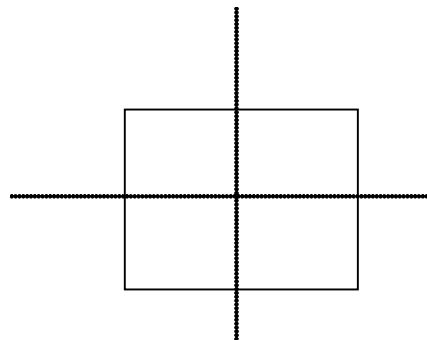

Figure 1.7: A square lattice
- (b) When a square lattice shown in Fig. 1.7 is rotated about an axis through its centre, it will appear exactly the same four times after being rotated through 360° . Thus, a square lattice has a four-fold rotational symmetry. In each fold, the lattice is rotated through 90° or $\pi / 2$